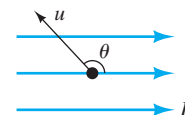

FIGURE P12.3 Force on a moving electron in a magnetic field.
- 12.3** (B)* An electron is moving in a magnetic field as shown in Figure P12.3. Find the force exerted on the electron, given $u = 10^6$ m/s, $B = 10$ T, and $\theta = 120^\circ$.
- 12.4** (B) In Figure P12.3, find θ if $u = 10^6$ m/s, $B = 10$ T, and the electric force on the electron is 1.6×10^{-12} N.